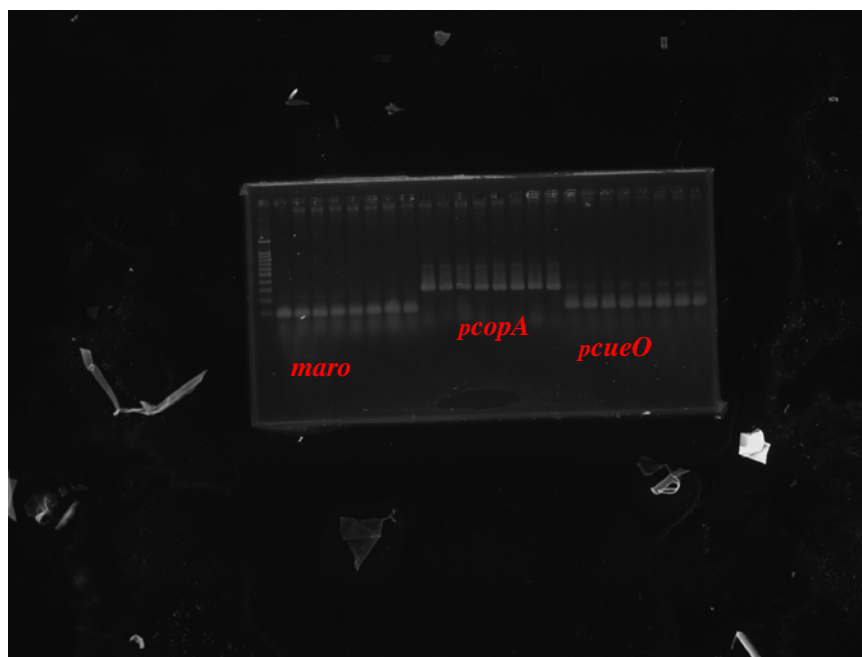

Fig.1 Three sensor candidates was acquired by PCR
2. Utilize PCR to acquire target sequences.(Fig.1)
- 4.Pipet 200  $\mu$  L bacteria to 96-well tissue culture plate's each well (Fig.1)